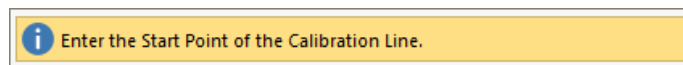

Figure 4-4
- Click on the **OK** button, the program will now be asking you enter the Start Point of the Calibration Line as shown in **FIGURE 4-4**.